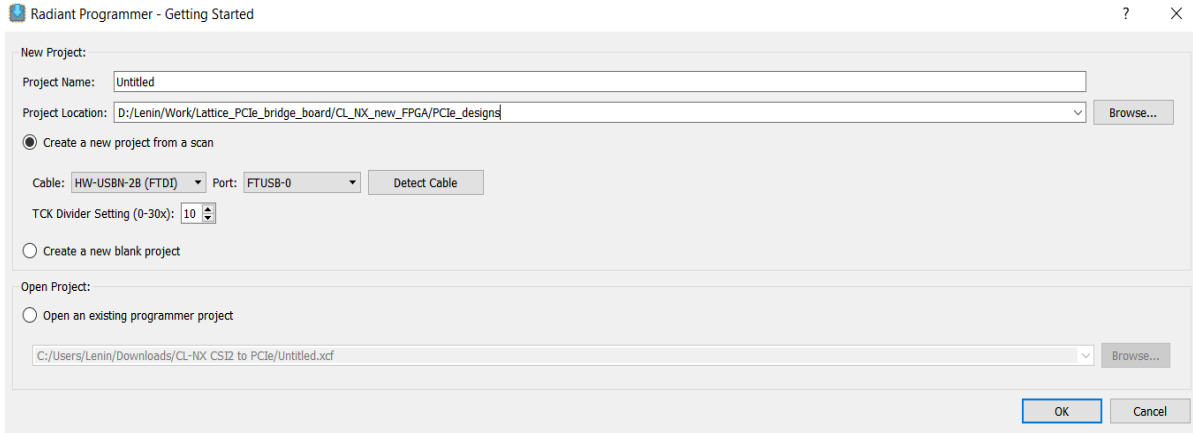

Figure 5.2. Creating a New Project from a Scan
1. Create a new project using the Lattice Radiant Programmer software. In the **Getting Started** dialog box, indicate **Project Name** and **Location** as shown in Figure 5.2.